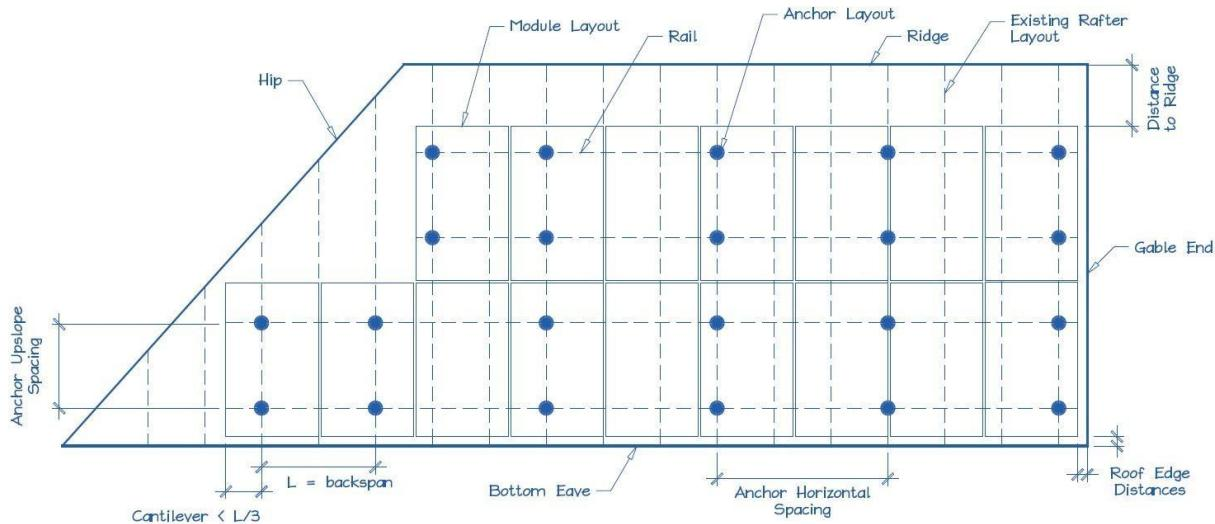

Figure 2. Sample Solar Panel Array and Anchor Layout Diagram (Roof Plan).
E. Is a roof plan of the module and anchor layout attached? (see Figure 2)
1). Proposed anchor horizontal spacing (see Figure 2):	'-' "ft-in
1. Anchors are also known as "stand-offs," "mounts" or "points of attachment." Horizontal anchor spacing is also known as "cross-slope" or "east-west" anchor spacing (see Figure 2).